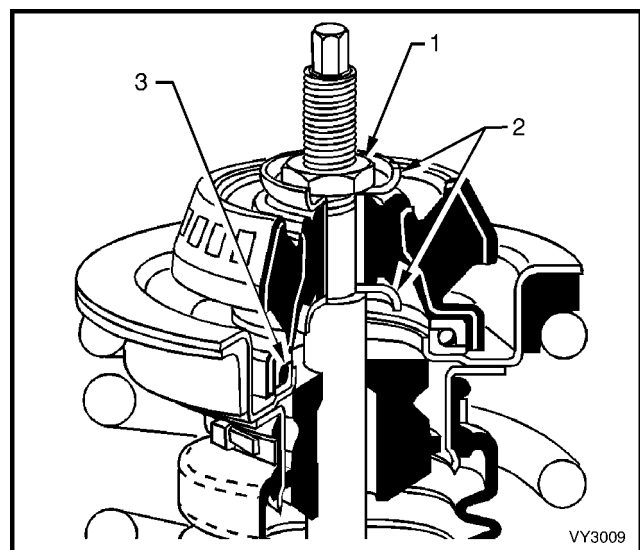

Figure 3B – 33
- 3 While holding the strut rod extended and, after installing the first mount washer with the dished shape facing downward (refer to item 2 in Figure 3B-33), install the upper front suspension strut mount assembly over the bearing and washer.
- 4 Install the second washer with the dished shape facing upward (refer to item 2 in Figure 3B-33) and install the retaining nut.